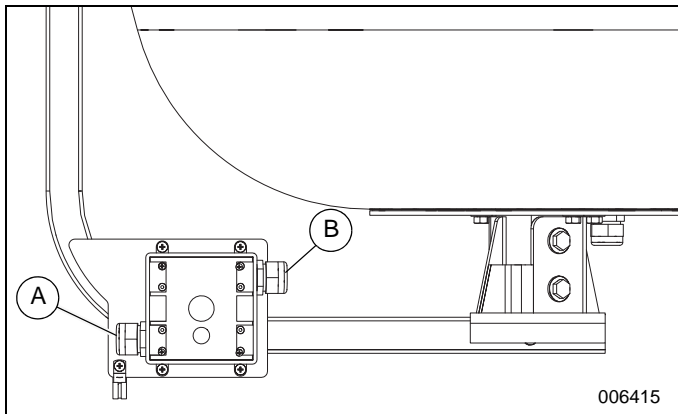

Figure 13. Cable Installation
9. See Figure 13. Install coil-cord through lower strain relief (A). Verify enough wire is in junction box to connect to WAGO connectors, then tighten strain relief.
- See Figure 13. Install coil-cord through lower strain relief (A). Verify enough wire is in junction box to connect to WAGO connectors, then tighten strain relief.
- See Figure 13. Install light fixture cord through upper strain relief (B). Verify enough wire is in junction box to connect to WAGO connectors, then tighten strain relief.